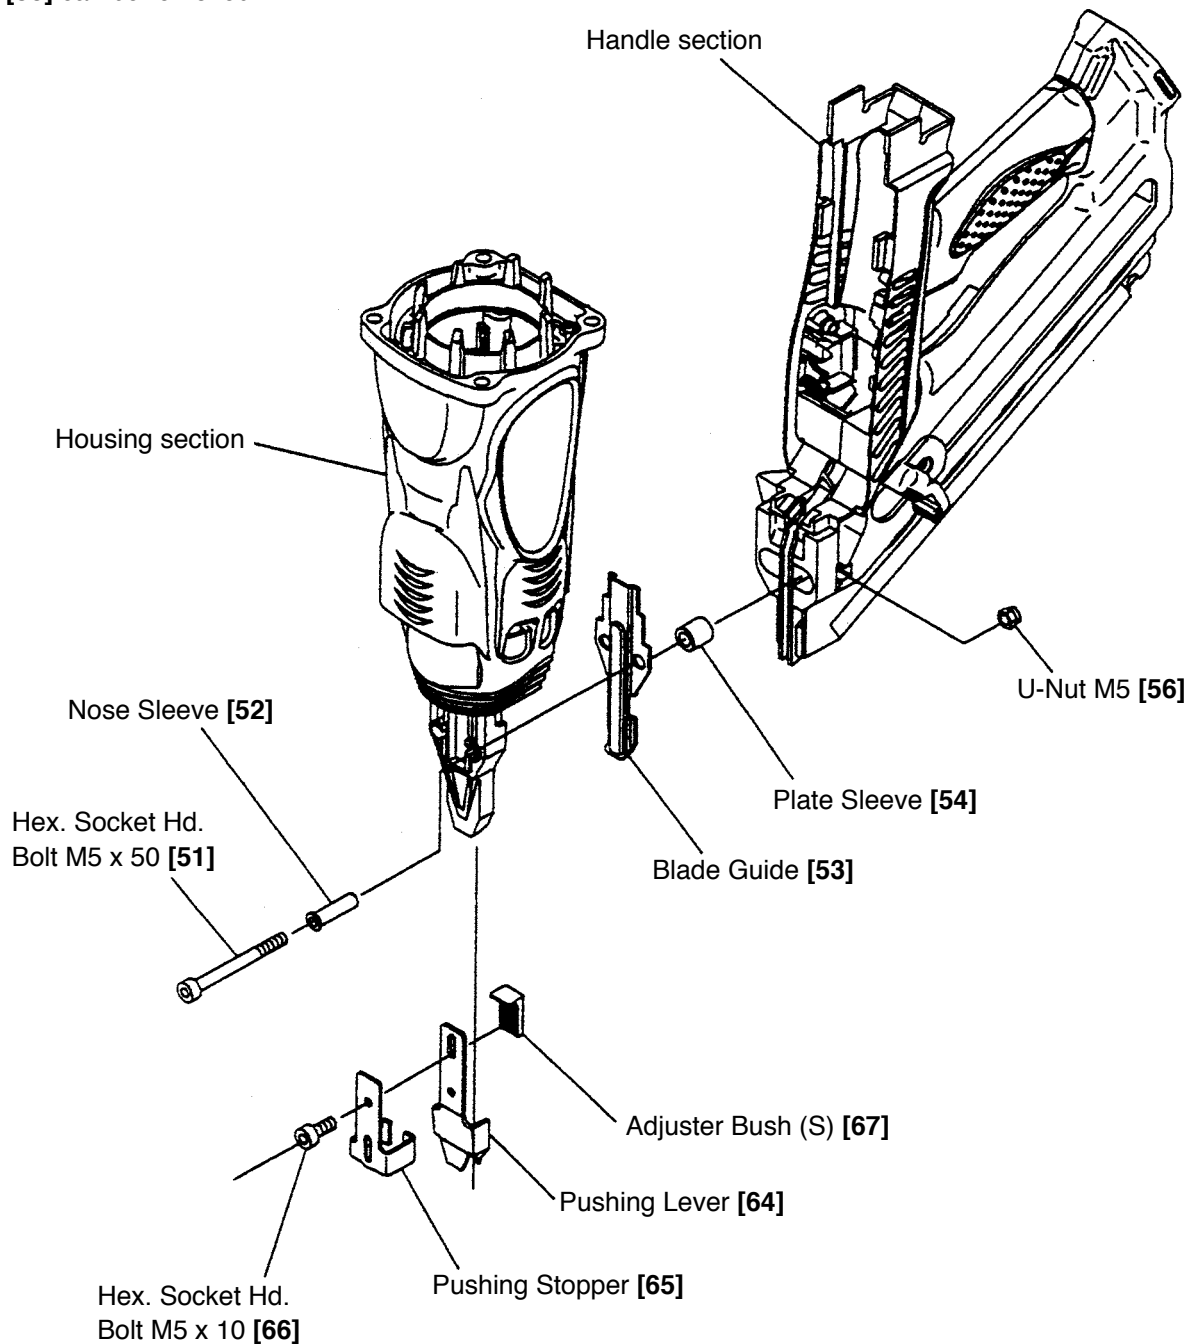

Fig. 30
(1) Disassembly and reassembly of housing section, handle section and pushing lever (Fig. 30)